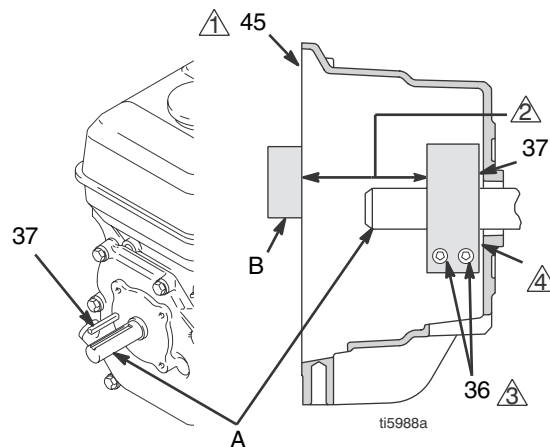

FIG. 10
- FIG. 10. Loosen two screws (36) on clamp (38),
- Push screwdriver into slot in clamp (38) and remove clamp.
- FIG. 10 Install engine shaft key (37)
- Tap clamp (38) onto engine shaft (A). Maintain dimension shown note 2. Chamfer must face engine.
- Check dimension: Place rigid, straight steel bar (B) across face of clutch housing (45). Use accurate measuring device to measure distance between bar and face of clamp. Adjust clamp as necessary. Torque two screws (36) to 125 ± 10 in-lb (14 ± 1.1 N-m)
- Install armature (39) on engine drive shaft.
- Install four screws (36) and lock washers (35) with torque of 125 in-lb.